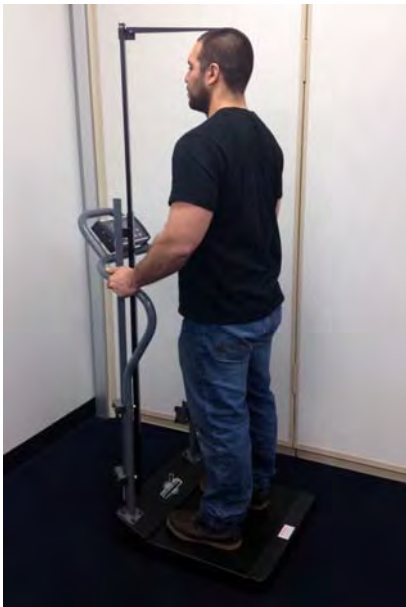

Figure 9
Height Rod Usage Instructions: (see Figures 9 – 14)
1. Position the patient on the scale platform, and raise the headpiece above the patient's head. (See Figures 9 & 10)